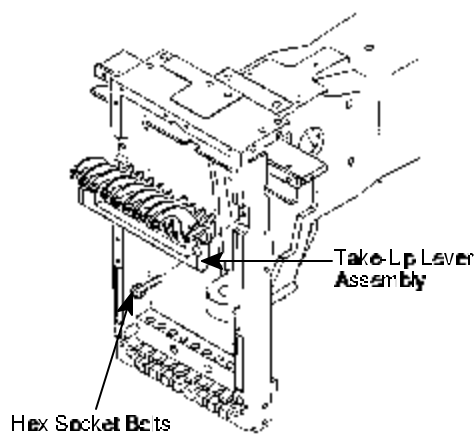

Figure 2
3. **Using** a 3 mm Allen Wrench, **loosen** and **remove** 2 hex socket bolts. See Figure 2.